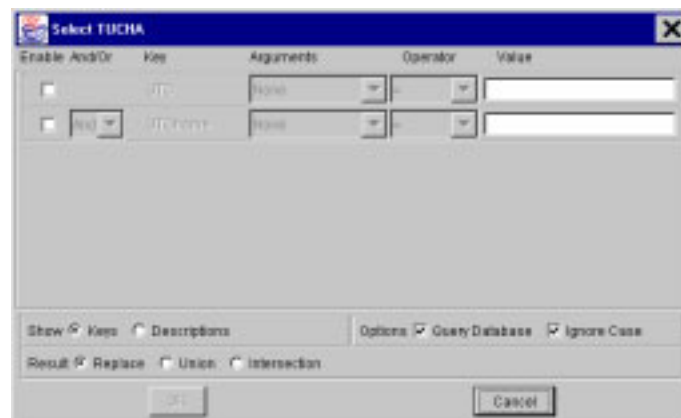

Figure 5.149 Select TUCHA Window
3. Click  (Select TUCHA's). The Select TUCHA window opens (Figure 5.149).